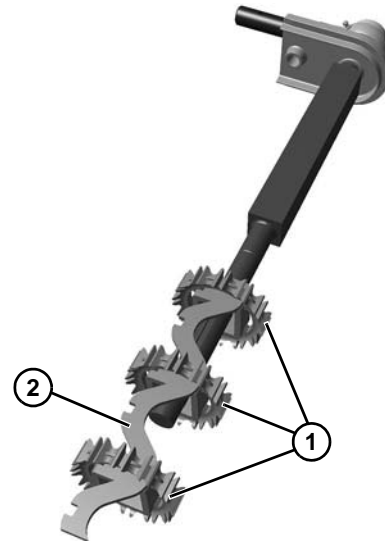

Figure 55
11. Remove the sprockets (**Figure 55, item 1**) and alignment bar (**Figure 55, item 2**).